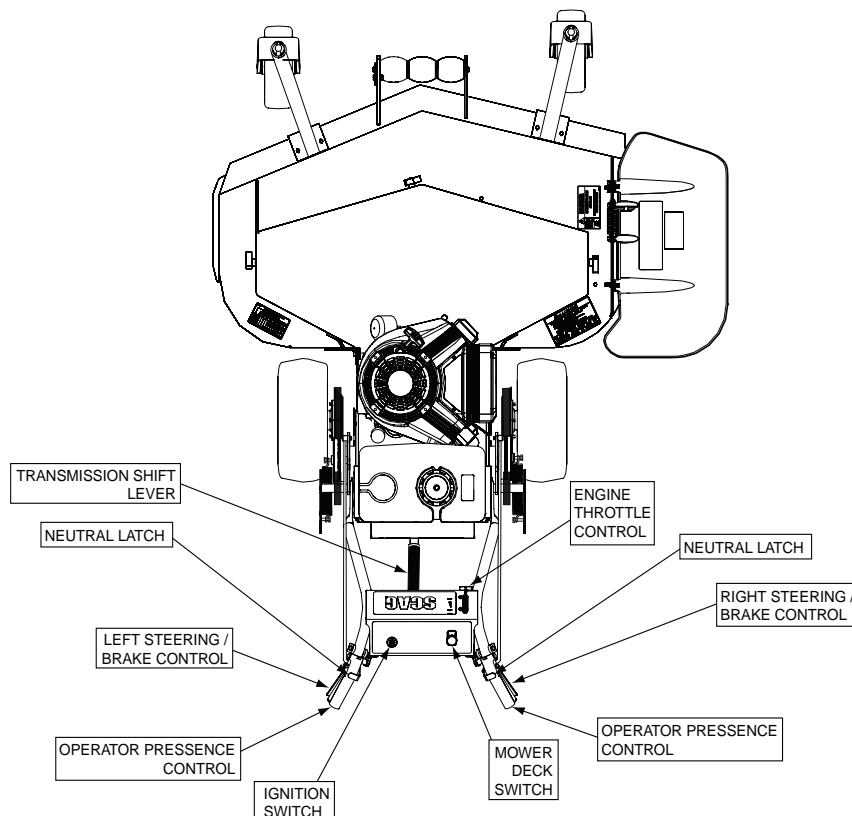

Figure 4-1. Controls and Instruments
1. **Ignition Switch (Figure 4-1).** The ignition switch is used to start the engine. Turn the key to the on position before pulling the recoil starter.
2. **Mower Deck Switch (Figure 4-1).** Used to engage and disengage the mower drive system. Pulling up on the switch will engage the deck drive. Pushing down on the switch will disengage the deck drive.
3. **Engine Choke Control (Figure 4-1).** Used to start a cold engine.
4. **Engine Throttle Control (Figure 4-1).** Used to control the engine speed. Pushing the lever forward increases engine speed. Pulling the lever back decreases engine speed. Full back position is the IDLE position. Full forward is the cutting position.
5. **Left Steering / Brake Control (Figure 4-1).** Used to control the mower's left wheel when traveling forward or reverse. Pull upward to apply brake.
6. **Right Steering / Brake Control (Figure 4-1).** Used to control the mower's right wheel when traveling forward or reverse. Pull upward to apply brake.
7. **Transmission Shift Lever (Figure 4-1).** Used to select the forward speed or selecting reverse. The machine must be at a complete stop before shifting between gears or shifting between forward and reverse.
8. **Neutral Latch (Figure 4-1).** Used to secure the belt drive system in neutral. Apply neutral latches when parking the machine.
9. **Operator Presence Control (Figure 4-1)**